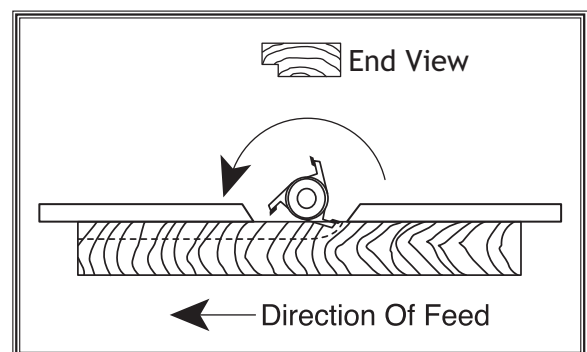

Figure 34. Fence setup for partial-edge removal (Guard Removed For Clarity).
4. Align the outfeed fence with the infeed fence as shown in **Figure 34**.